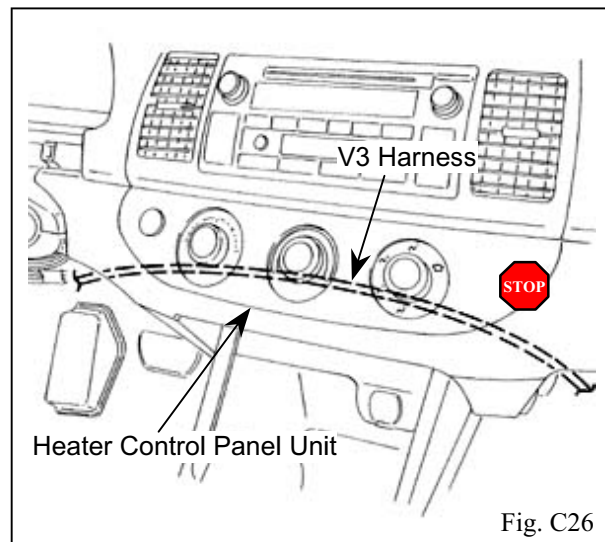

Fig. C26
45. Route the V3 harness behind the heater control panel unit, through the passenger's side of the vehicle. (Fig. C26)